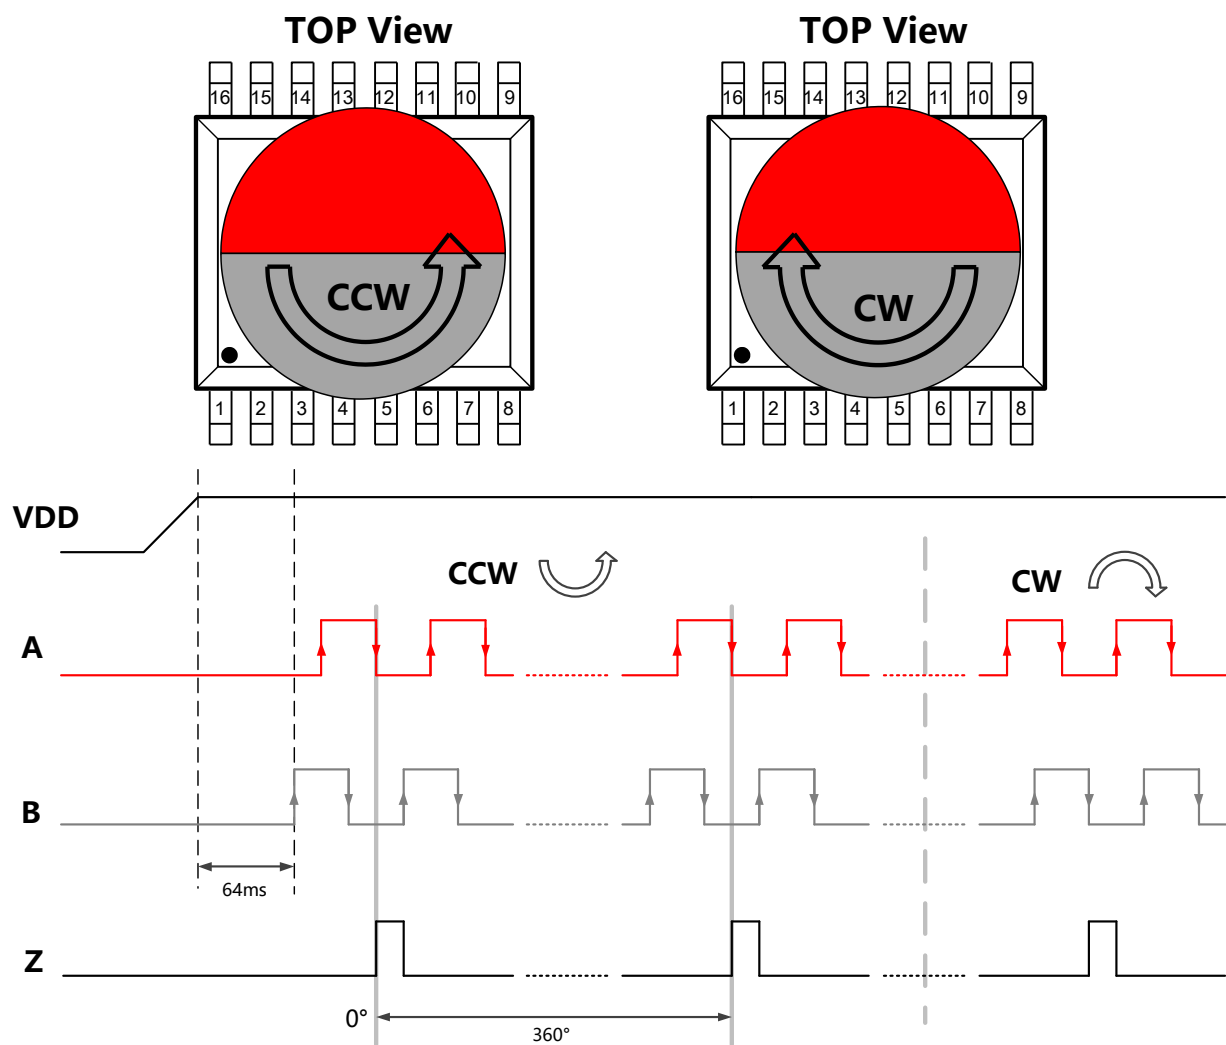

Figure 7: ABZ output with VDD power on
As shown in Figure 7, when the magnet rotates counter-clock-wise (CCW), the rising edge of output B leads output A by 1/4 cycle, when the magnet rotates clock-wise (CW), the rising edge of output A leads output B by 1/4 cycle (or 1 LSB). Output Z indicates the zero position of the magnet. After chip power-on, the ABZ output is blocked for 64ms to guarantee proper output.